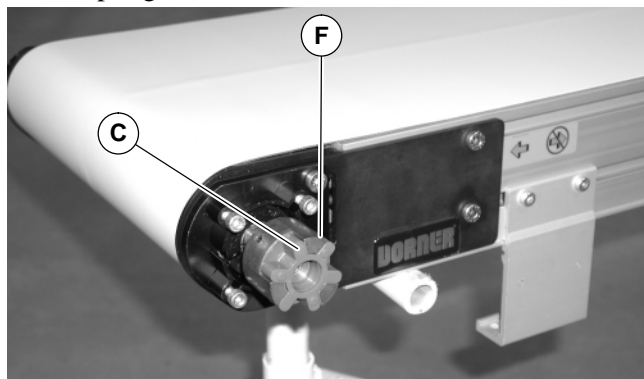

Figure 3
2. Install spider bushing (C of Figure 3) in three jaw coupling (F).